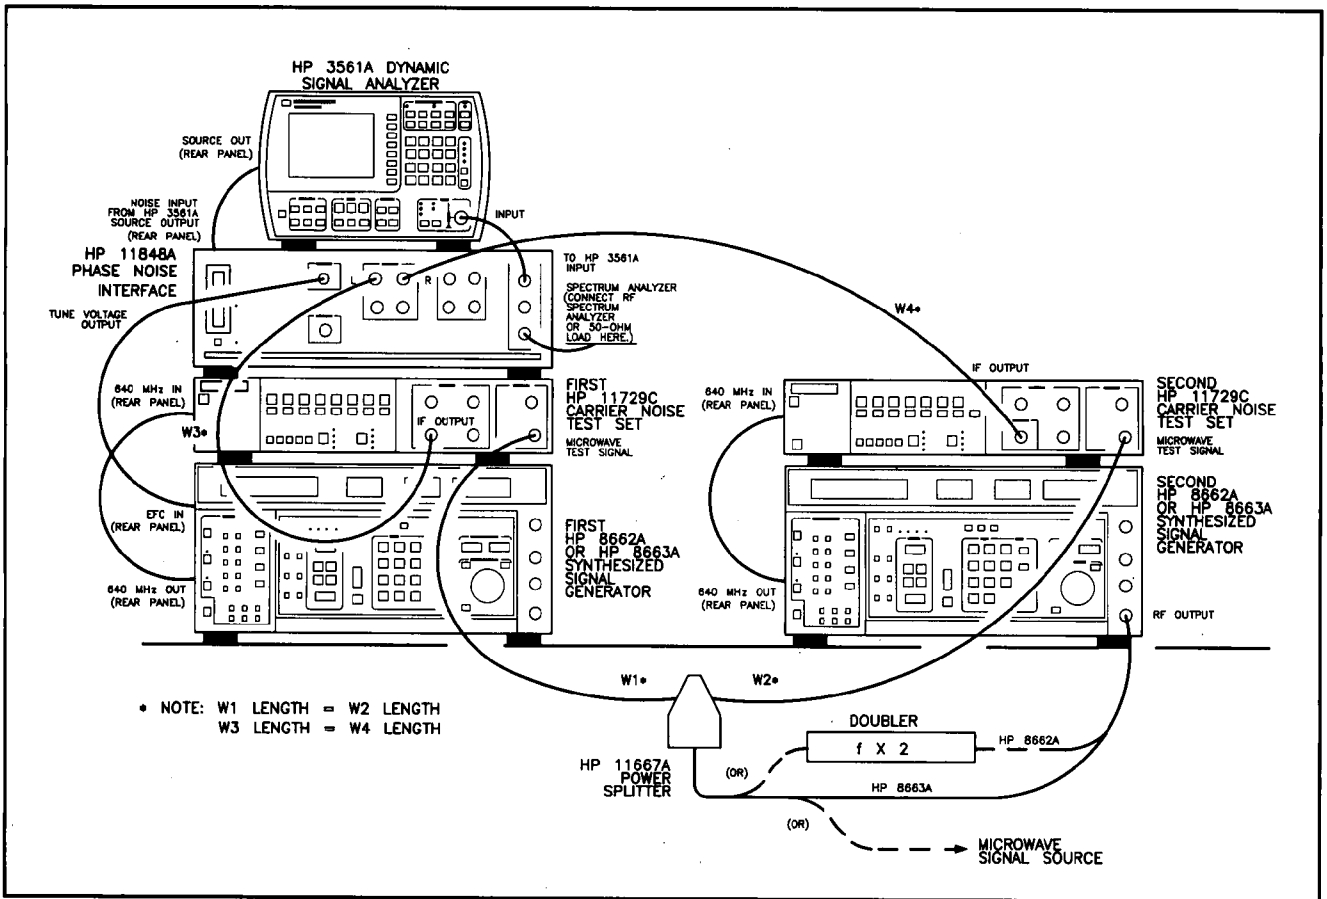

Figure 35. Spectral Purity Tests for Options 003 and 004 Setup
8. Connect the instruments as shown in Figure 35 and set the non-controlled instruments as instructed in the following steps a and b. However, before connecting and setting the instruments, read the following notes.
1. The on-screen connection diagram, while showing the general measurement technique, is incomplete. Also note that neither of the HP 8662As or HP 8663As nor the second HP 11729C in Figure 35 are under HP-IB control.